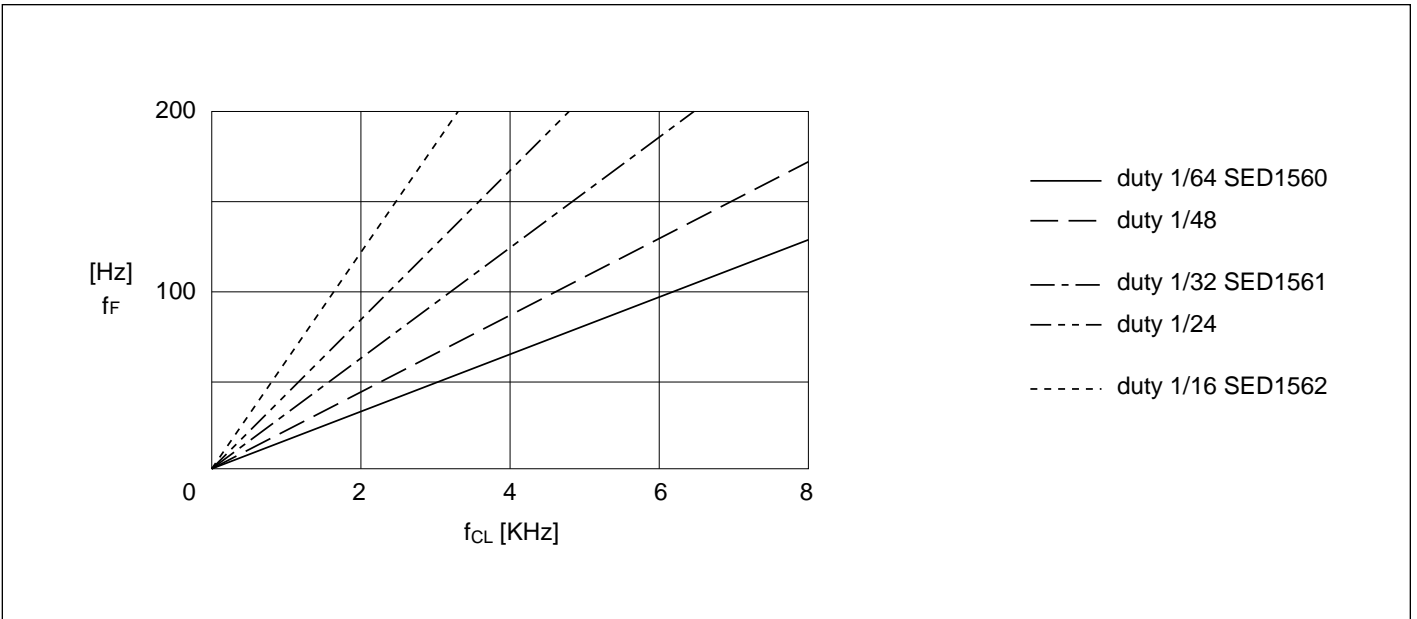
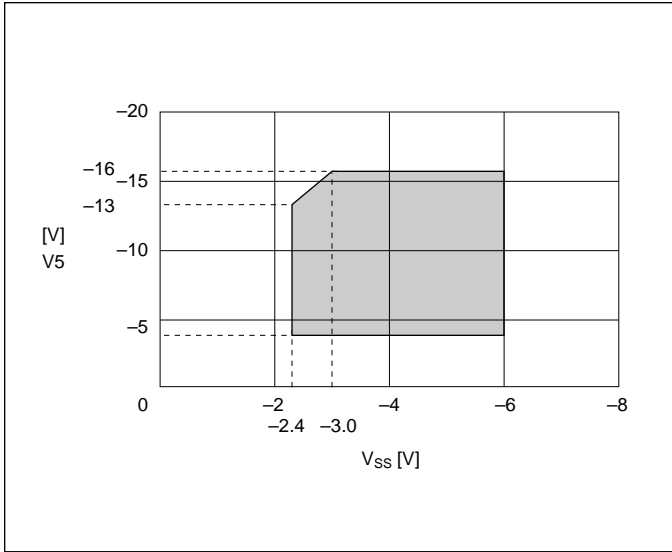

Figure 3.2 External clock (fCL) vs. frame frequency [SED1560 Series]
Figure 3.3
- \*2. The operating voltage range of the  $V_{SS}$  and  $V_5$  systems (see Figure 3.3). The operating voltage range is applied if an external power supply is used.
- \*8. The resistance when the 0.1 -volt voltage is applied between the "On" output terminal and each power terminal ( $V_1$ ,  $V_2$ ,  $V_3$  or  $V_4$ ). It must be within the operating voltage (2).
- \*9. The relationship between the oscillation frequency, frame and  $R_f$  value (see Figure 3.2).